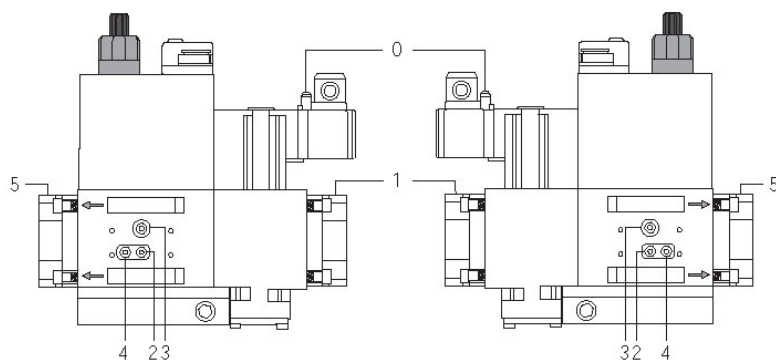
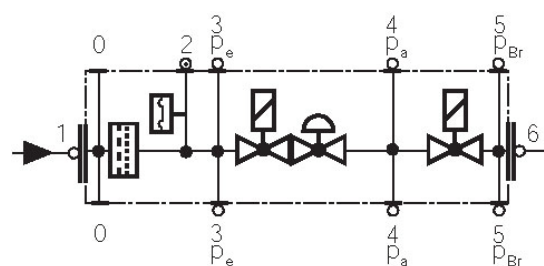

Fig. 1
Fig. 2
- Change the filter if the pressure difference between pressure connection 1 and 2 (Fig. 1-Fig. 2) $\Delta p > 10$ mbar.
- Change the filter if the pressure difference between pressure connection 1 and 2 (Fig. 1-Fig. 2) is twice as high compared to the last check.